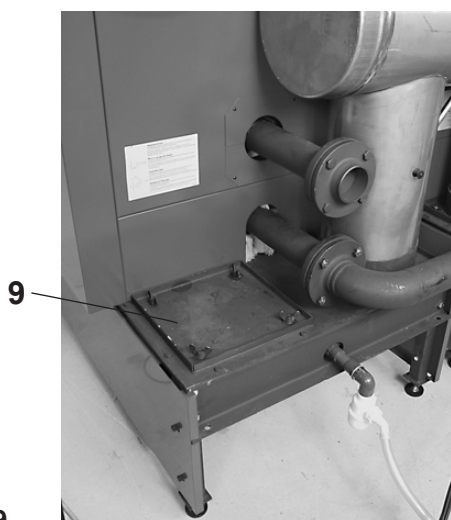

Fig. 29
7. Remove the cover from the cleaning opening (9, Fig. 29)